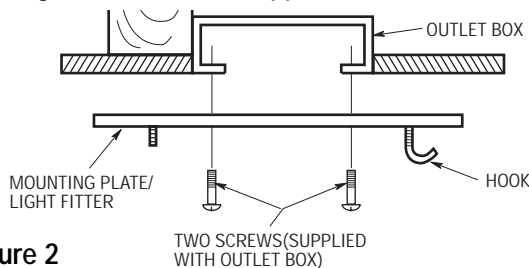

Figure 2
1. Pass the supply wires (black, white and ground) through the center hole and securely attach the mounting plate/light fitter to the outlet box (Figure 2) using the two screws supplied with the outlet box.